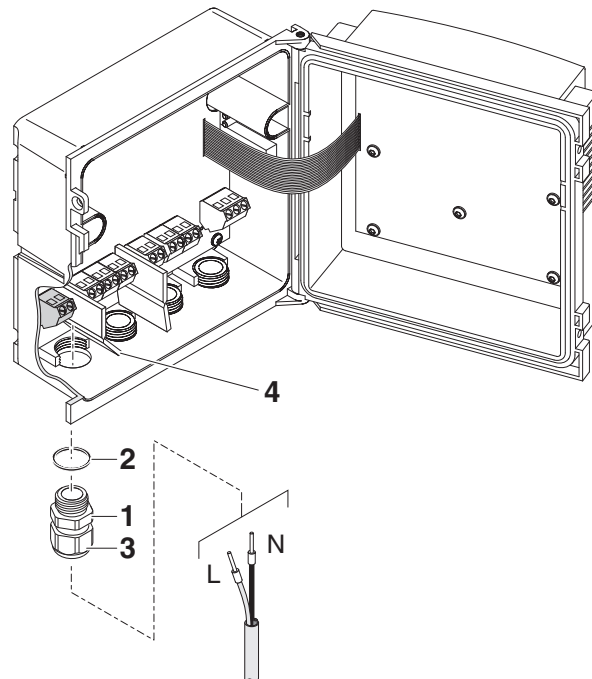

Fig. 3-12 Inserting the supply line.
6	Screw a cable gland (pos. 1 in Fig. 3-12) with sealing ring (pos. 2) into the enclosure below the power supply connection.
- 10 | Tighten the cap nut (pos. 3 in Fig. 3-12).